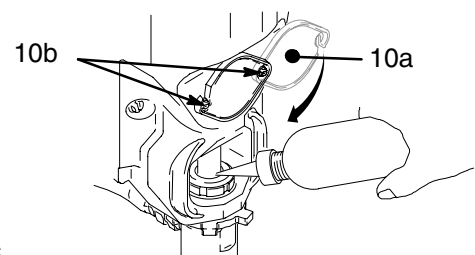

Fig. 16 9577A
7. Fig. 16. Fill packing nut with Graco TSL until fluid flows onto top of seal.